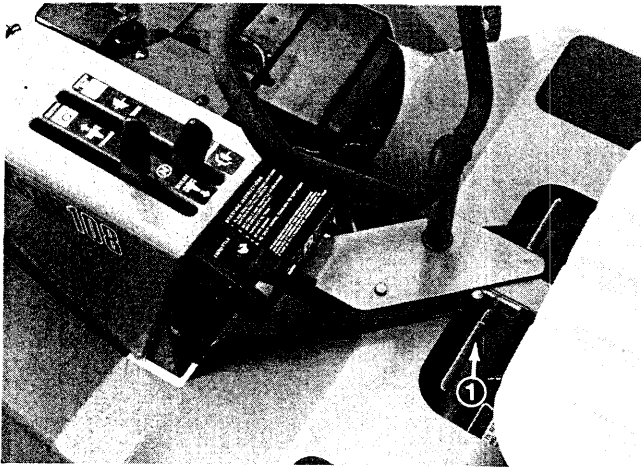

Figure 13
2. Sit on seat, and grasp ends of transport hook, lift cutting unit up and slide transport hooks over transport bar on sully (Fig. 13).
3. Sit on seat, lift up on transport hook and lower cutting unit (Fig. 13).